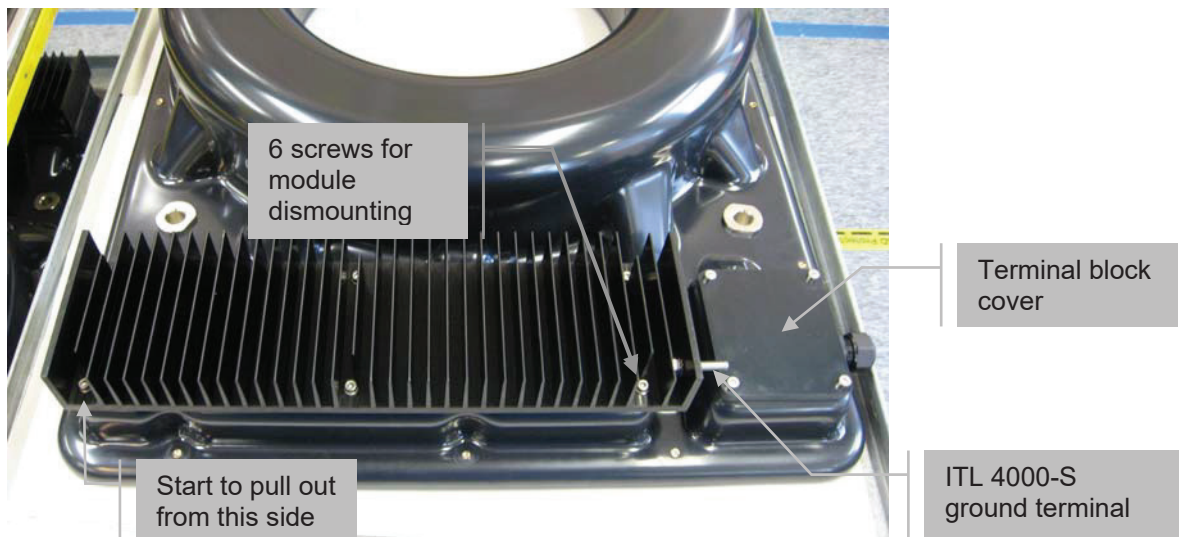

Figure 8: External view of ITL 4000-S
Remove the 4 screws that hold the small cover near the heatsink (see fig. 8). The tightening torque for these 4 screws is 1.3 N·m. The torque for the cable gland is 2.5 N·m. Cable gland is foreseen for a cable diameter 5.5 to 12 mm. Connection wires to the terminal block shall be from 0.2 mm² to max. 4 mm² (AWG24 to AWG12).
The heatsink and the measuring head are internally connected to the ground terminal (threaded stud) which is accessible on the heatsink side (see fig. 8); it should be connected to the ITL 4000-S local ground.
- o Remove the 6 screws that hold the heatsink (see fig. 8).